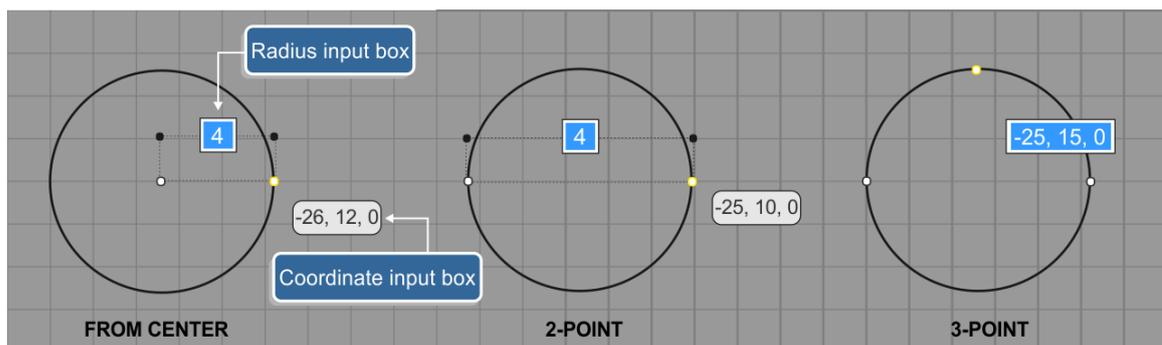

Figure 10. Creating a circle.
- Click on a point (or enter coordinates) lying on the circumference or input the radius as shown in Figure 10.